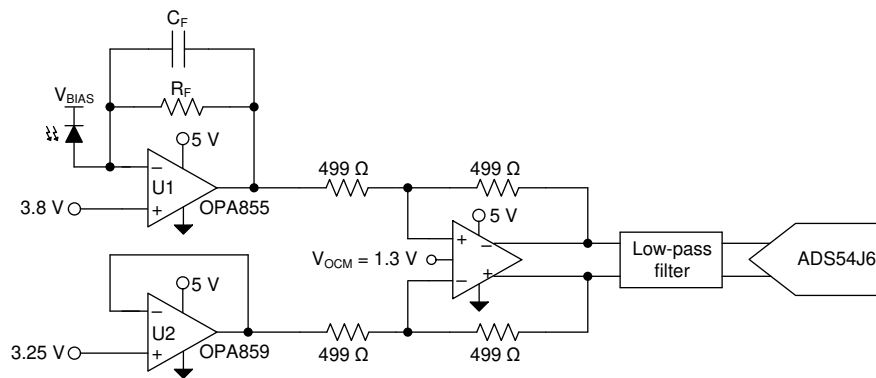
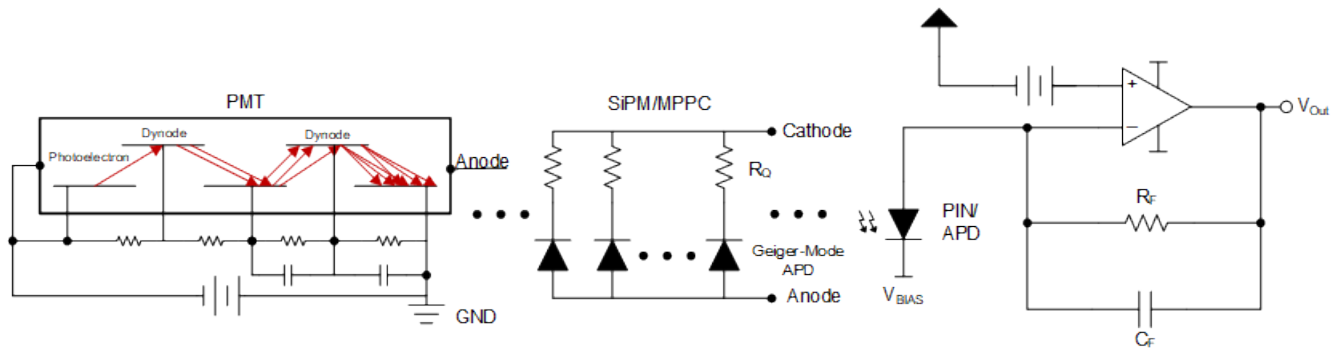

图 10-1. OPA855 as a TIA in an Optical Front-End System
图 10-5. Transimpedance Amplifier with APD or SiPM/MPPC or PMT Inputs
图 10-1 shows the OPA855 configured as a transimpedance amplifier (U1) in a wide-bandwidth, optical front-end system. A second amplifier, the OPA859-Q1, configured as a unity-gain buffer (U2) sets a dc offset voltage to the THS4520. The THS4520 is used to convert the single-ended transimpedance output of the OPA855 into a differential output signal. The THS4520 drives the input of the ADS54J64, 14-bit, 1-GSPS analog-to-digital converter (ADC) that digitizes the analog signal.
图 10-1 shows the OPA855 configured as a TIA, with the avalanche photodiode (APD) reverse biased so that the APD cathode is tied to a large positive bias voltage. In this configuration, the APD sources current into the op amp feedback loop so that the output swings in a negative direction relative to the input common-mode voltage. To maximize the output swing in the negative direction, the OPA855 common-mode voltage is set close to the positive limit; only 1.2 V from the positive supply rail. The feedback resistance (R_F) and the input capacitance (C_{IN}) form a zero in the noise gain that results in instability if left unchecked. To counteract the effect of the zero, a pole is inserted into the noise gain transfer function by adding the feedback capacitor (C_F).
OPA855 offers 8 GHz of gain bandwidth, high slew-rate, and low noise which makes this device suitable for a wide range of photodetectors. 图 10-5 shows the OPA855 configured as a transimpedance amplifier (TIA) in a wide-bandwidth, optical front-end system. Various types of optical sensors can be used as an optical input to the amplifier: photodiode (PD), avalanche photodiode (APD), Photomultiplier Tube (PMT), and Multi-Pixel Photon Counter (MPPC) or known as Solid-State Photomultiplier (SiPM). Optical detection applications have commonly used APDs, but ultra-low light source detection has been a challenge in past solutions. With technologies such as PMTs and MPPCs, their high intrinsic gain, while maintaining a fast output, requires a low noise, high-speed interface. The OPA855 can accommodate for these optical challenges and would work equally as well in these applications.
图 10-5 shows the OPA855 configured as a TIA, with the optical sensor reverse biased so that the diode cathode is tied to the positive bias voltage. A RC filter can be used at the reverse bias node as a low pass filter to eliminate high frequency noise. The internal capacitance of photodetectors will vary based on sensor type and the value of the applied reverse voltage. The setups between each sensor type will slightly differ, but the connection to the amplifier will be consistent throughout.
The DC voltage bias at the non-inverting input of the OPA855 shown in 图 10-5 will set the common-mode voltage which will maximize the output swing of the system in mismatched power supply configurations. The DC bias is critical to avoid clipping or saturating the output stage of the amplifier. For the later stages, a fully differential amplifier (FDA) can be used to convert single-ended signal to a differential input to drive an analog-to-digital converter (ADC) as shown in 图 10-1. Higher order filters can be added between the FDA and ADC for system noise reduction.